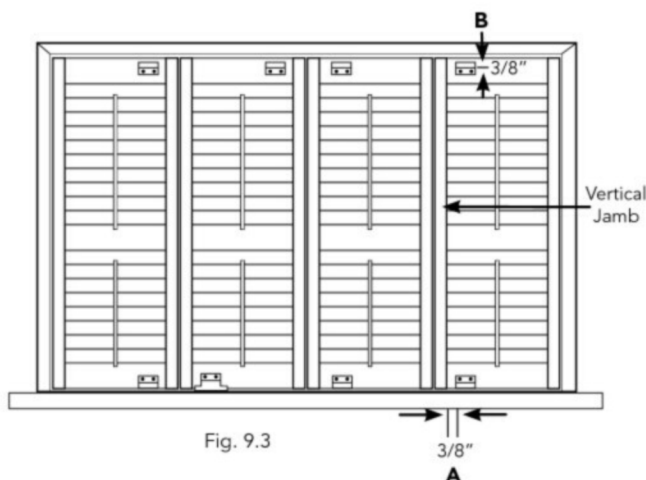

Fig. 9.3
- Install catch plate first as shown on drawings with the holes towards the center of panel. (See Fig. 9.3)
- Each catch plate should be 3/8" away from the edge of the stile and 3/8" away from the end of the panel. (See Fig. 9.3)